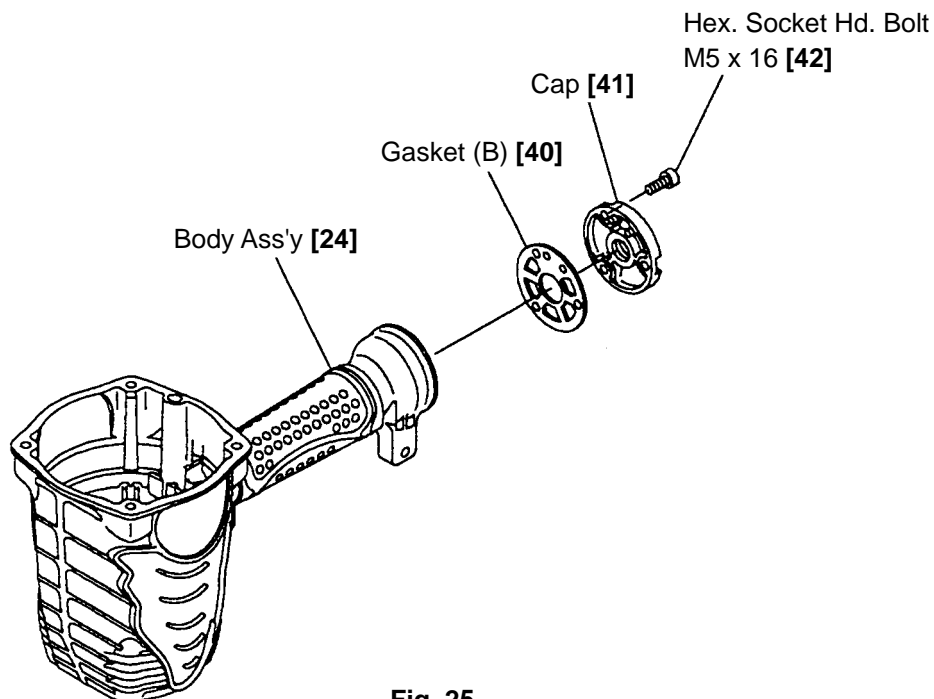

Fig. 25
(3) Disassembly and reassembly of the cap (See Fig. 25.)